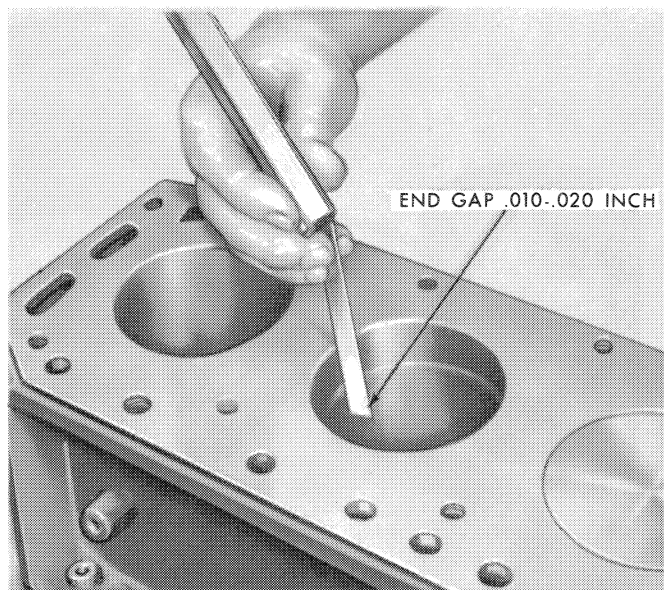

Figure 46—Checking Piston Ring End Gap
1. Install the piston ring in the cylinder bore. Invert the piston and push the ring approximately halfway into the bore to true the ring with the cylinder bore. Measure the ring end gap with a feeler gauge as shown in Figure 46.